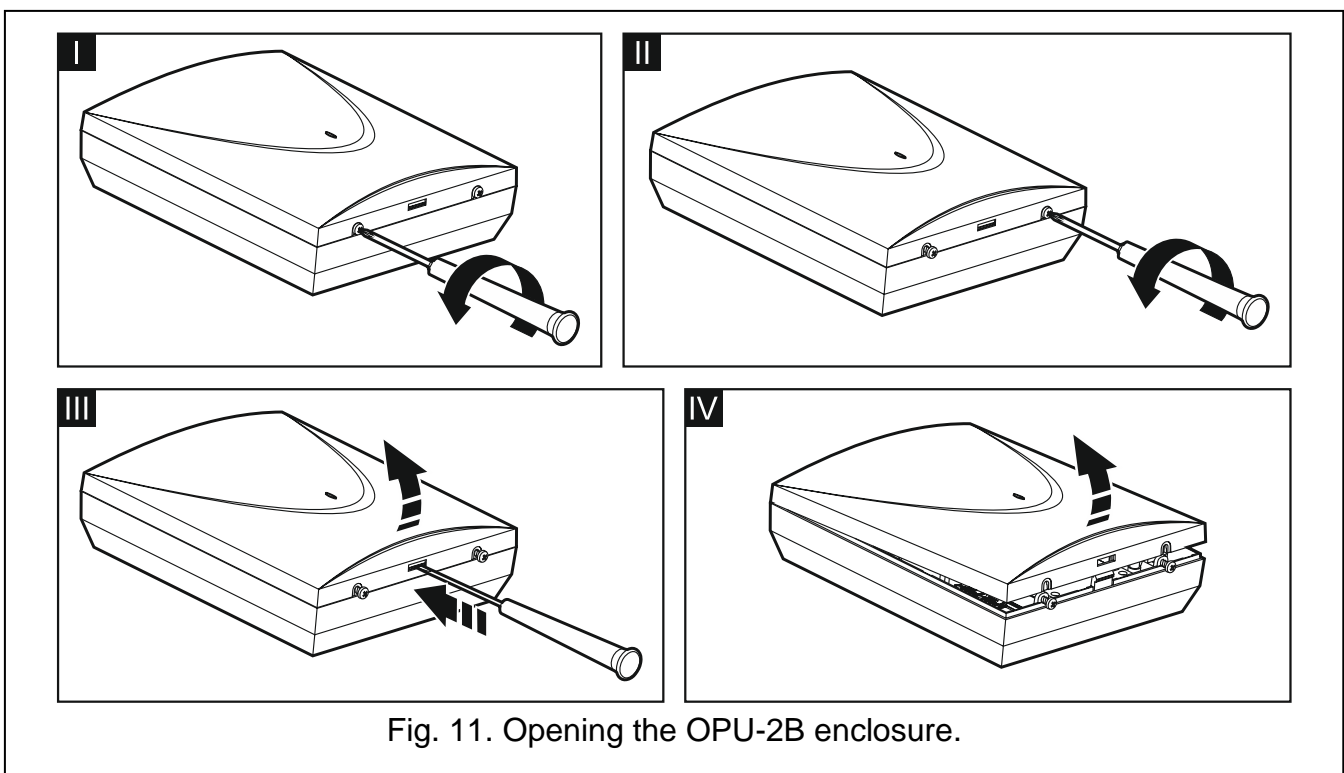

Fig. 11. Opening the OPU-2B enclosure.
1. Loosen the screws locking the enclosure cover and remove the cover (Fig. 11).